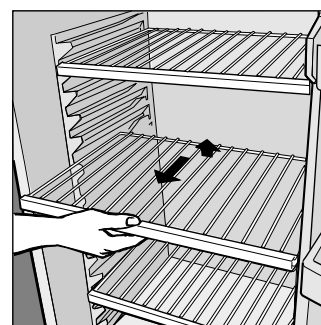

Fig.1
- The refrigerator compartment is equipped with convenient, removable shelves (Fig. 1) which can be adjusted for height using the shelf guides. This allows you to place even large containers and foodstuffs in the refrigerator.